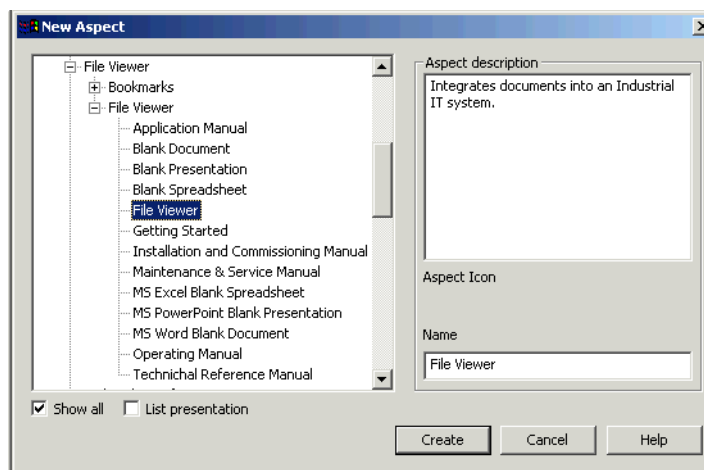

Figure 226. File Viewer Aspect
2. Select **New Aspect** from the object's context menu and add a File Viewer aspect, see Figure 226.